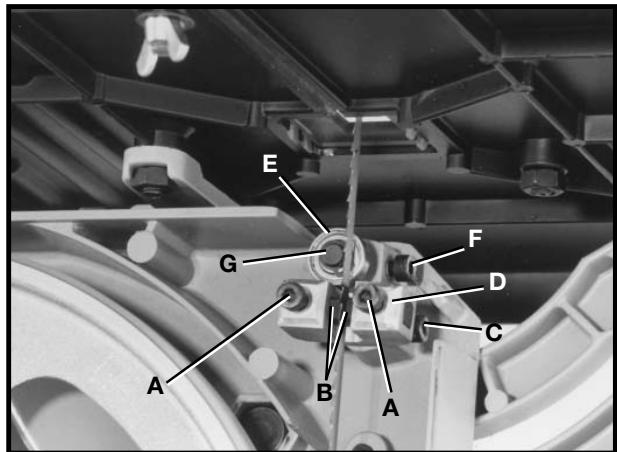

Fig. 24
1. Loosen two screws (A) Fig. 24, and move guides (B) as close as possible to the sides of the blade, being careful not to pinch the blade. Then tighten the two screws (A).
2. The front edge of guide blocks (B) Fig. 24, should be adjusted so they are just behind the "gullets" of the blade teeth by loosening screw (C), and moving assembly (D) in or out as necessary. Then tighten screw (C).
3. The lower blade support bearing (E) Fig. 24, should be adjusted to support the rear of the blade during the cutting operation and also prevent the blade from being pushed too far to the rear which could damage the blade. The support bearing (E) Fig. 24, should be set about 1/32 in. behind the blade by loosening screw (F) Fig. 24, and moving shaft (G) in or out. Then tighten screw (F).
4. The lower blade support bearing (E) Fig. 24, should also be adjusted so the back of the blade overlaps the outside diameter of the ball bearing by approximately 1/8 in. The blade support bearing (E) is set on an eccentric shaft. To change position of bearing (E), loosen screw (F) Fig. 24, and rotate shaft (G) Figs. 24 and 25, until the blade properly overlaps the support bearing. Then tighten screw (F) Fig. 24.